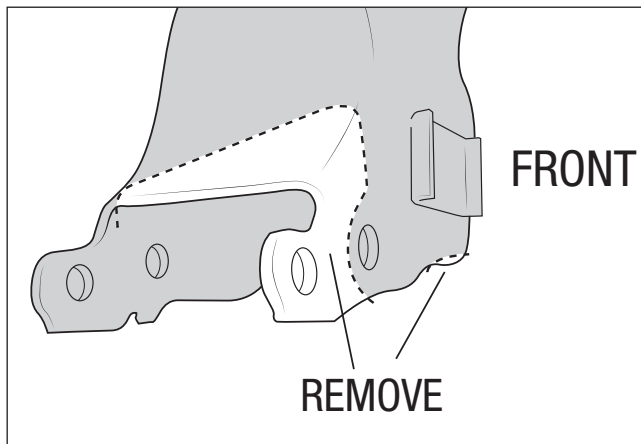

Figure 2
- A. Driver rear lower control arm (LCA) bracket to clear differential (fig. 2).